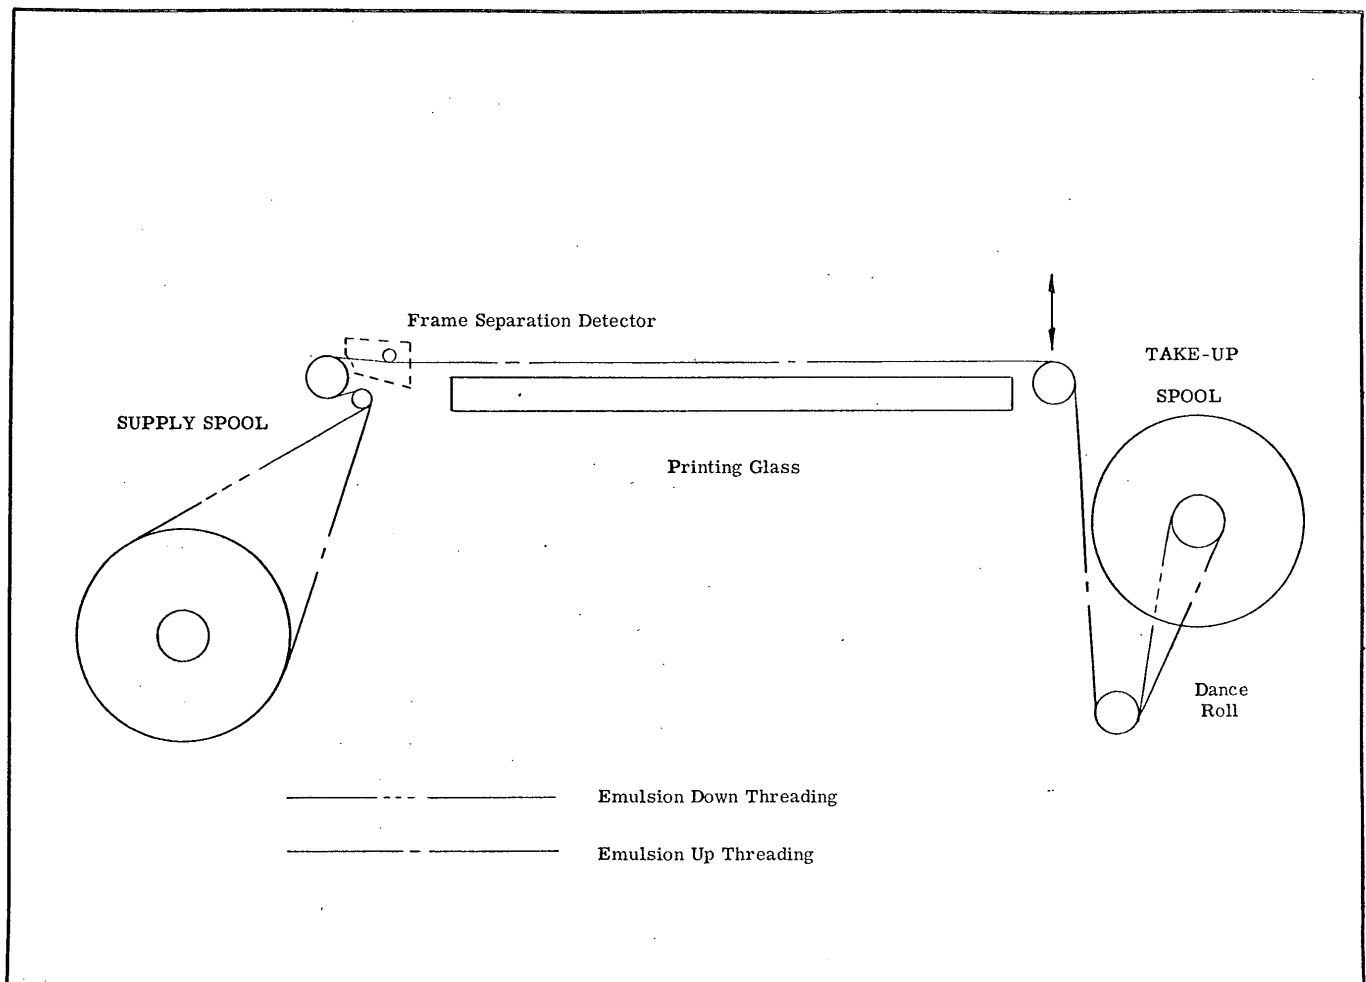

Figure 4-8. Original Film Threading
4-74. ORIGINAL FILM. Original film may be loaded under "daylight" conditions. Refer to figure 4-8 for threading diagram. Load printer with original film in the following sequence.
e. Mount film supply spool on left spool support (3) and rotate handle (5) to detent stop. Refer to figure 4-8 for film lead off spool position, emulsion up or down, as required.
g. Mount film take-up spool on right spool support (9) and rotate handle (14) to detent stop.
h. Thread film in accordance with figure 4-8.
i. Disengage rider roll latch knob (6) by pulling outward and pressing down 90°. This will allow rider rolls (7, 12) to seat on the film border.